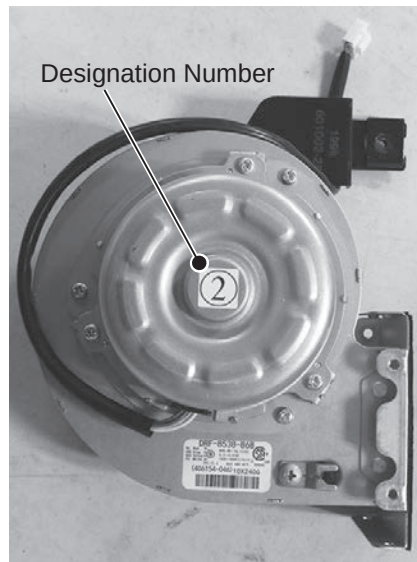

Figure 105 - Fan designation number
IMPORTANT! Note the fan designation number provided on the label located in the center of both the old and new fan assemblies. This information will be used later to properly configure the water heater. See Figure 105.
- 43 Press the "**SETTING**" button and adjust the value of **C04** using the "**UP**" and "**DOWN**" buttons to match the fan designation number on the new fan assembly recorded in **Step 24**. See Figure 105 as reference. The value will flash.